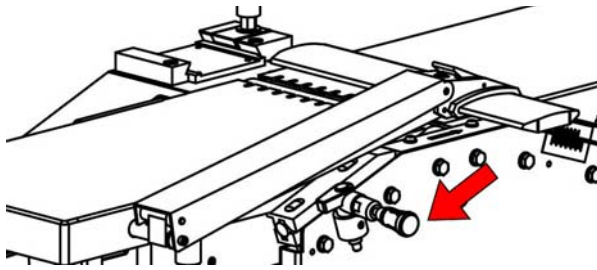

Fig. 31: Locking the dressing table
Step 14: Turn the handle (Fig.31) 3-4 turns clockwise to lock the dressing table.